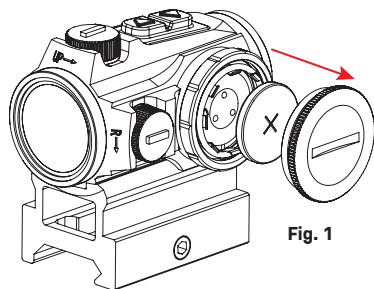

Fig. 1
2. Insert Battery with the positive end toward Battery cap as can be seen in Fig 1.